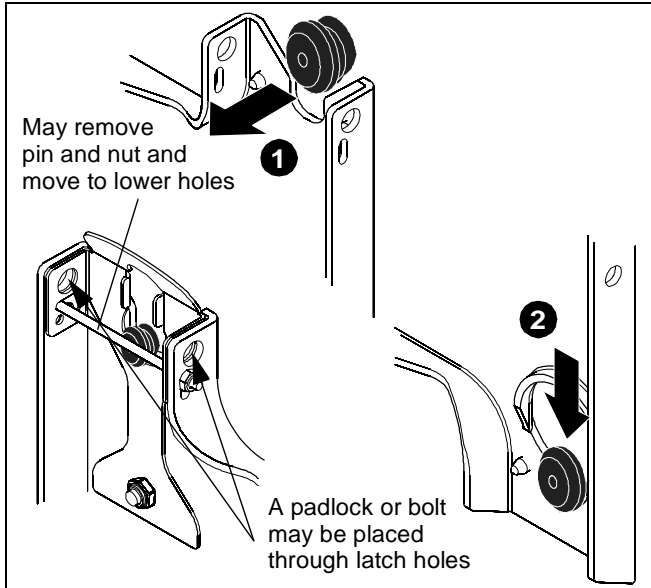

Figure 4
2. Lower each display into place listening for audible "click" to ensure recessed area of mounting buttons are properly seated in lower area of mounting holes. (See Figure 4)
NOTE: Holes are provided in the faceplate for use with a padlock or similar locking device, if desired. In addition, the pin and nut may be removed from the upper holes and moved to the lower holes for use as a more permanent locking device. (See Figure 4)